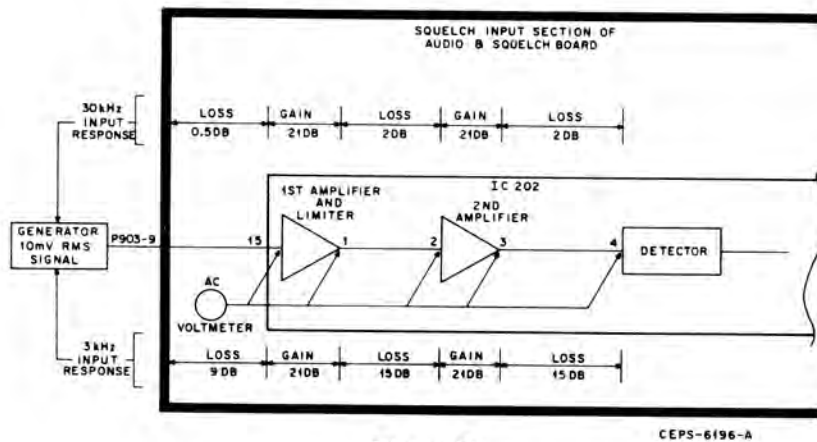

Figure 21.
This troubleshooting procedure may be used to isolate a squelch malfunction, occurring before the detector, to a specific stage. The test is performed by injecting an ac signal at the input to the squelch circuitry and noting results obtained with an ac voltmeter. Most accurate results are obtained by taking dB gain and loss measurements between certain points, as illustrated in Figure 21. Individual point voltage checks may also be used to quickly verify proper squelch input circuitry operation, but this is not an adequate test to prove the circuitry is defective (refer to Table 16 and Figure 21). Tolerance addition *may* cause increasing variation from the typical readings in the table, as readings are taken further from the injected signal point.
Step 5. Take gain and loss (or signal level) measurements, as required (refer to Figure 21 and Table 16).
AC voltage measurements and waveforms are given, where applicable, on the schematic diagram. Refer to that diagram, and Figure 21 for pertinent information when making audio stage gain measurements.